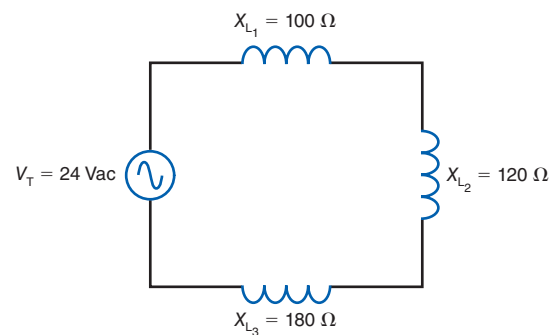

Figure 19-12
- 19.22** In Fig. 19-12, solve for